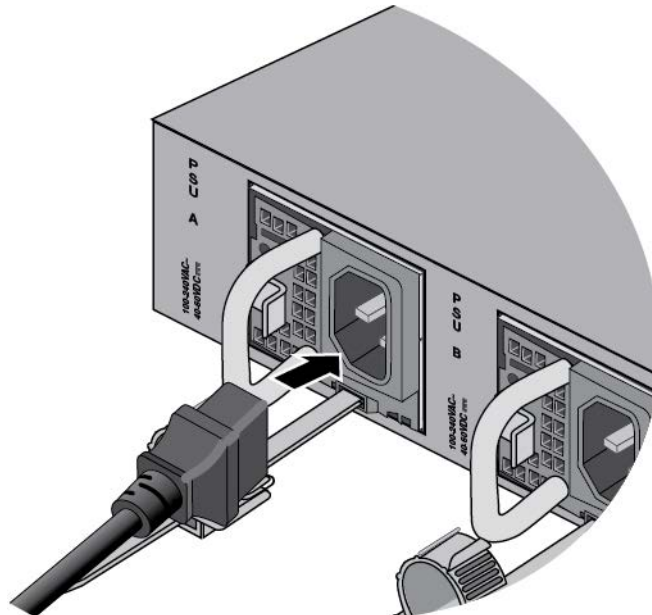

Figure 125. Connecting the AC Power Cord
1. Connect the AC power cord included with the power supply to the AC power connector on the rear panel of the chassis. If the switch has two power supplies, you only need to power on one of them to configure the switch. Refer to Figure 125.